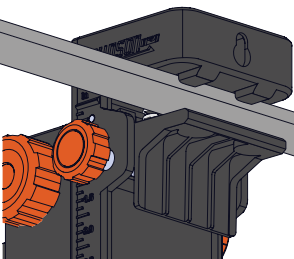

Figure 35
4. Place the track mount accessory onto a track, making sure the clamp is fully seated over the track. Tighten the smaller adjustment knob to secure the track mount accessory to the track. (Figure 35)